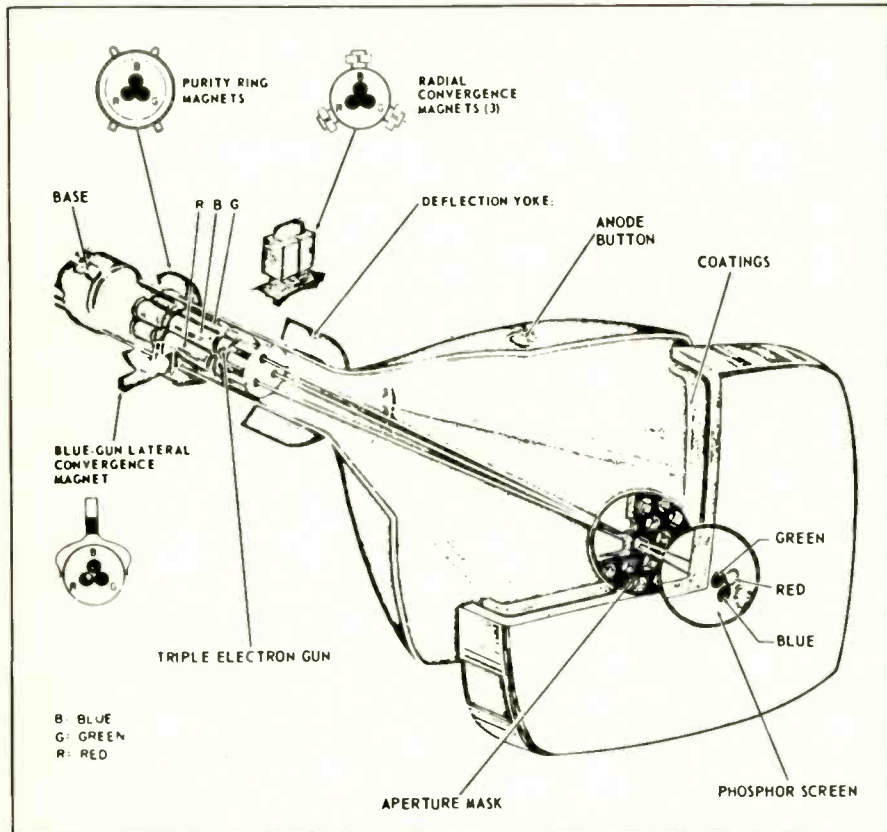

Fig. 1—Features at the color picture tube face plate and externally mounted neck assembly.
■ Previous articles in this series have described the nature of a color-TV signal and resulting antenna requirements, compared circuits used in both color- and B/W-TV sets, and covered the special circuits required for color-TV reception. This article concludes the series with a description of CRTs capable of reproducing either full-color or monochrome pictures (Fig. 1).